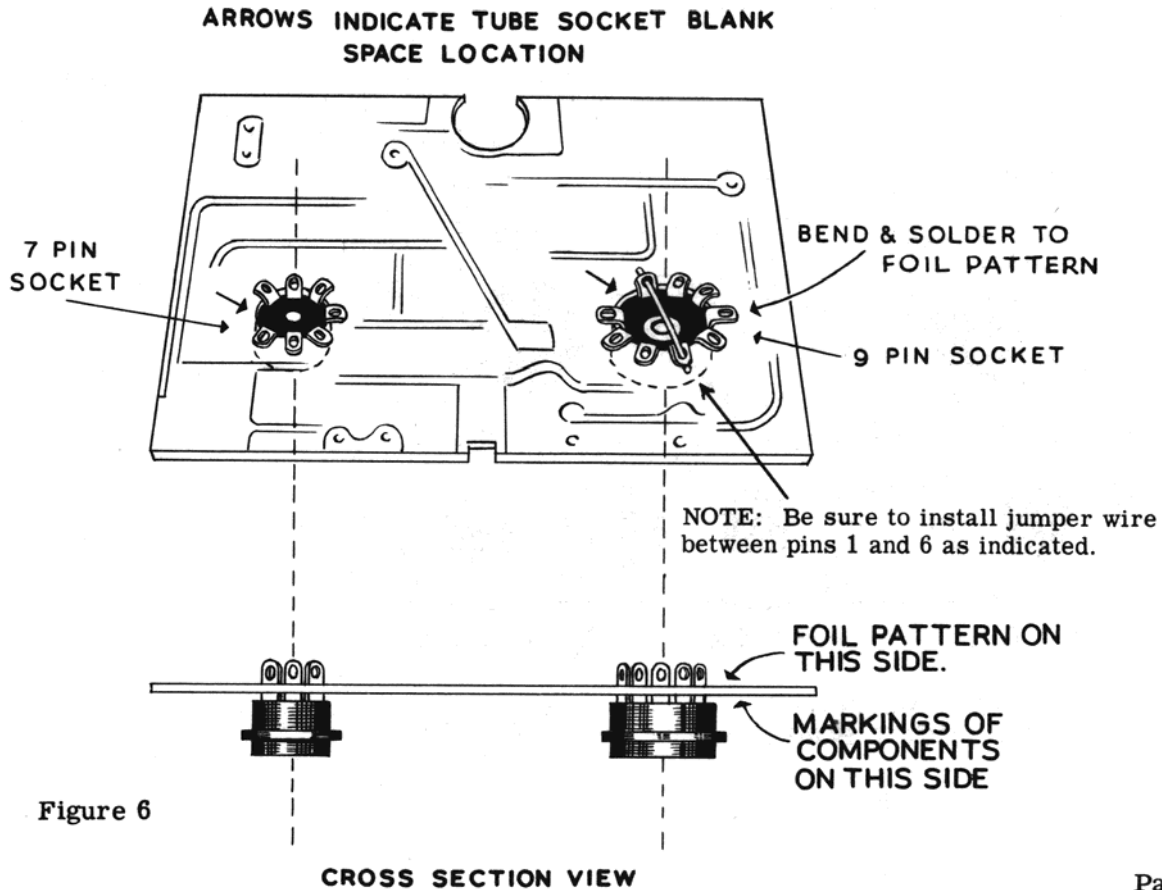

Figure 6
- ( ) Orient the spacing between socket pins 1 and 7 so that it corresponds with the placement shown in Figure 6. With a low wattage small tipped soldering iron, using only rosin core type solder, begin soldering the socket pins to the copper foil terminals. See notes on printed circuit soldering in the INTRODUCTION on Page 3. Note that pin 6 of the 7-pin socket has no circuit connection and soldering only serves to increase mechanical mounting strength.